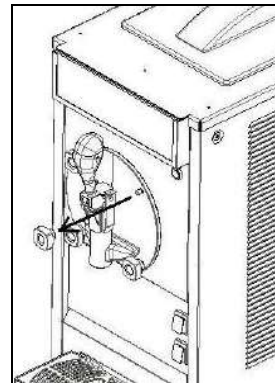

Fig. 14
- Unscrew the security knobs and remove the front flange (fig. 14 and 15).